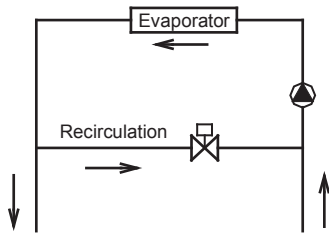

Fig. 8-28
c. The inlet pipe of the evaporator must be provided with a target flow controller, to realize flow-break protection for the unit. Both ends of the target flow controller must be supplied with horizontal straight pipe sections whose diameter is 5 times that of the inlet pipe. The target flow controller must be installed in strict accordance with "Installation & Regulation Guide for Target Flow Controller" (Fig.8-28,8-29). The wires of the target flow controller should be led to the electric cabinet through shielded cable (see Electric Controlling Schematic Diagram for details). The working pressure of the target flow controller is 1.0MPa, and its interface is 1 inch in diameter. After the pipelines are installed, the target flow controller will be set properly according to the rated water flow of the unit.